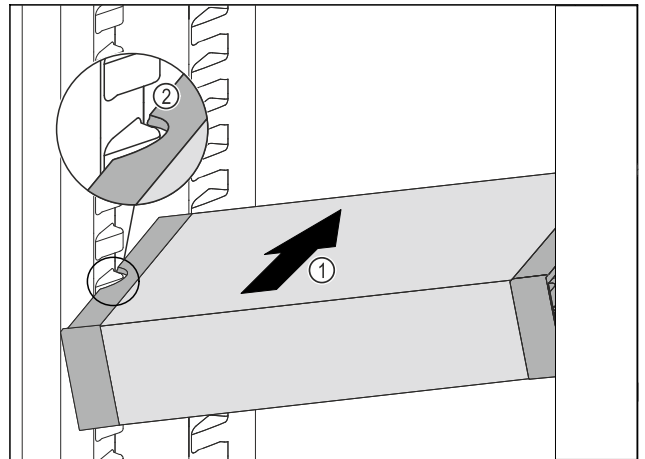

Fig. 207
- Insert the VarioSafe into the fridge section at an angle Fig. 207 (1) until the recesses in the side Fig. 207 (2) of the VarioSafe are at the level of the support rib in the fridge section.